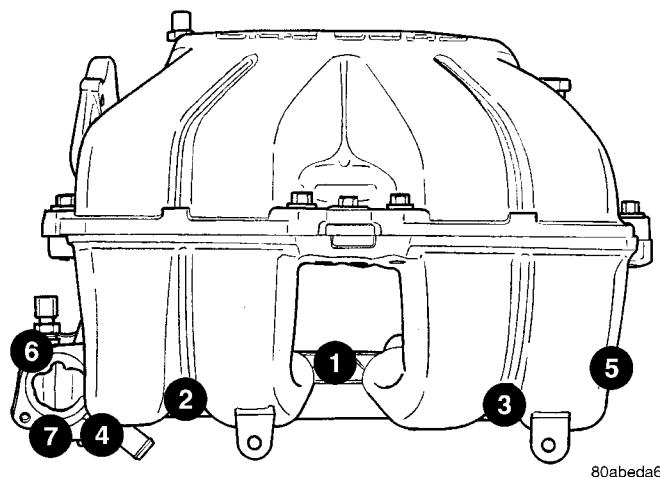

Fig. 112 Lower Intake Manifold Tightening Sequence
(9) Disconnect fuel injector harness.
(10) Remove the bolts attaching the power steering reservoir to manifold. Set reservoir aside. **Do not** disconnect line from reservoir.
(11) Remove lower intake manifold fasteners (Fig. 112). Remove the manifold from engine.
(12) Inspect the manifold. (Refer to 9 - ENGINE/MANIFOLDS/INTAKE MANIFOLD - INSPECTION)
(1) Position a new gasket on cylinder head and install lower manifold.
(2) Install and tighten intake manifold fasteners to 28 N·m (250 in. lbs.) in the sequence shown in (Fig. 112). Repeat procedure until all bolts are at specified torque.